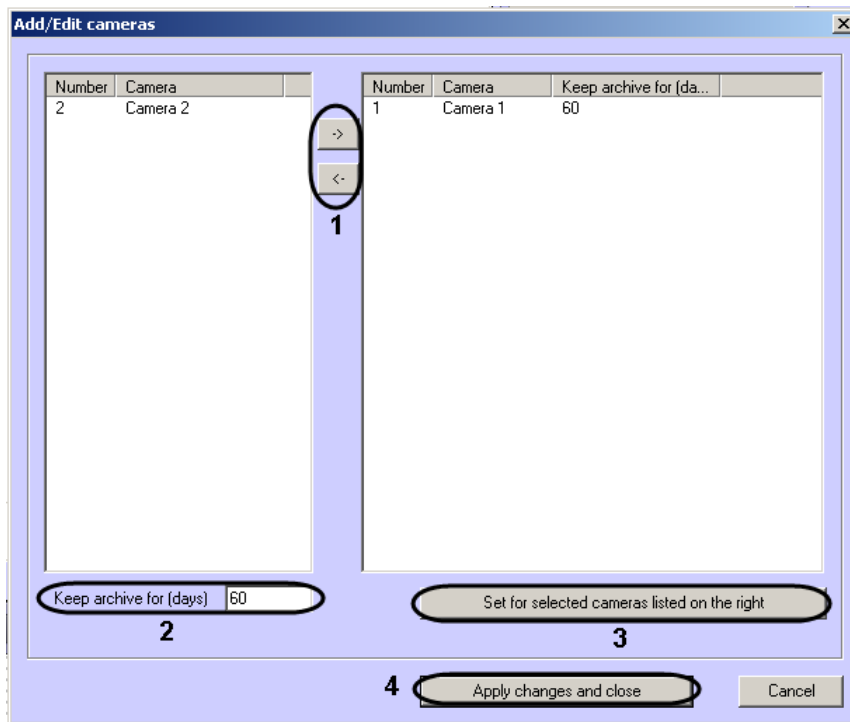

Fig. 4.3 – 14 Adding/editing cameras
3. Configure the necessary cameras by clicking the  and  buttons to move cameras from the left list to the one on the right (see Fig. 4.3 – 14, 1).